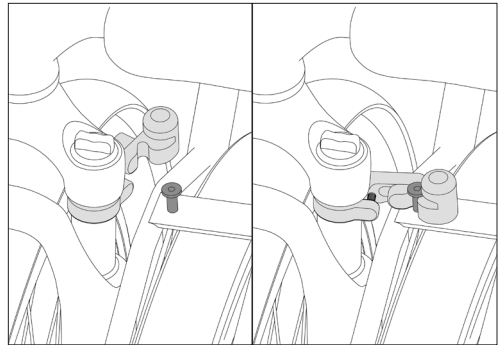

Fig. 34: Lock the folded bike together with hook.
7. The two halves of the frame can be locked together with a hook located on the front fork, which grasps a post on the rear rack. Press the hook into the post on the rear rack until it clicks into place. (Fig. 34).
5. Unlock the two halves of the frame by detaching the fork latch from the post on the rear rack (Fig. 34, page 36).